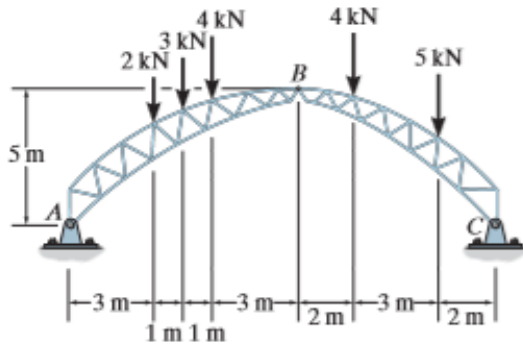

Fig. 2
2. Determine the resultant forces at the pins A, B, and C of the three-hinged arched roof truss. (Fig.2)